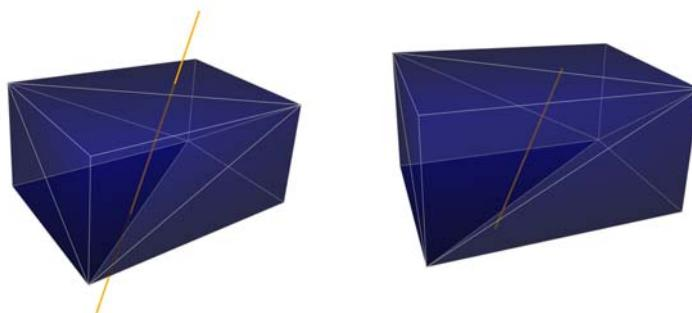

Figure 7.5 Linear add-in, intersecting the boundary of the domain (left, meshing impossible) and located completely inside the domain (right).
*The successful use of Add-ins for the generation of unstructured meshes requires that the applied add-ins neither intersect themselves, nor each other or the boundaries of the meshed domain (see Figure 7.5).*